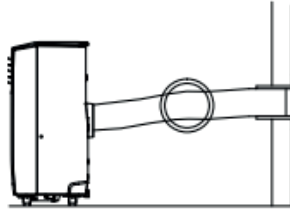

FIG. 7
- Avoid kinks and bends in the exhaust hose as this will cause expelled moist air to build up causing the unit to overheat and shut down. Fig 7 & 8 show correct position.